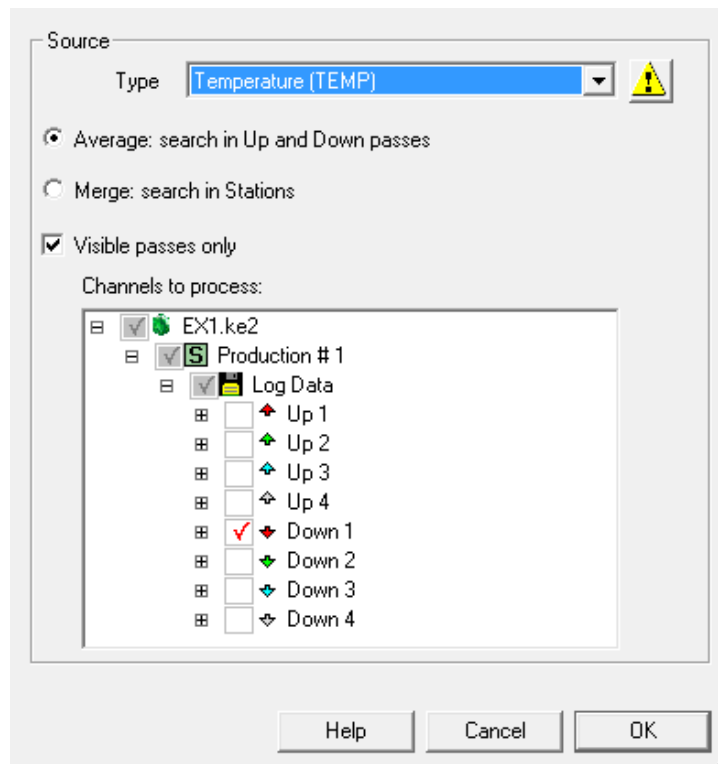

Fig. B01.23 • Reference channel definition / Average dialog
- Select the pass 'Down 1' and validate with OK, Fig. B01.23. The check box on the Temperature line is now checked and the mnemonic displayed. Clicking on the trash icon allows deleting the considered reference channel.